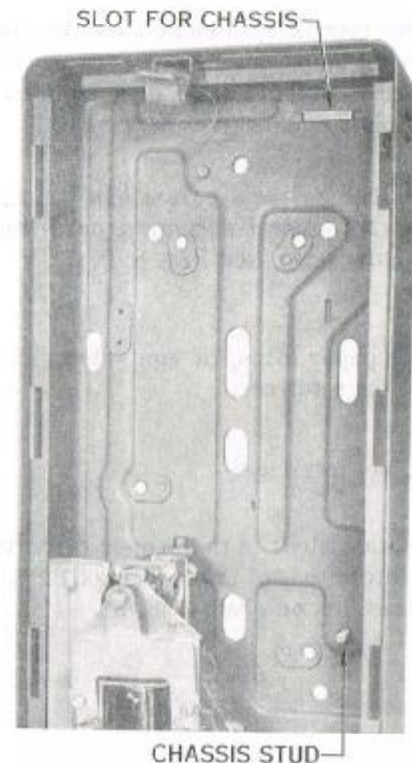
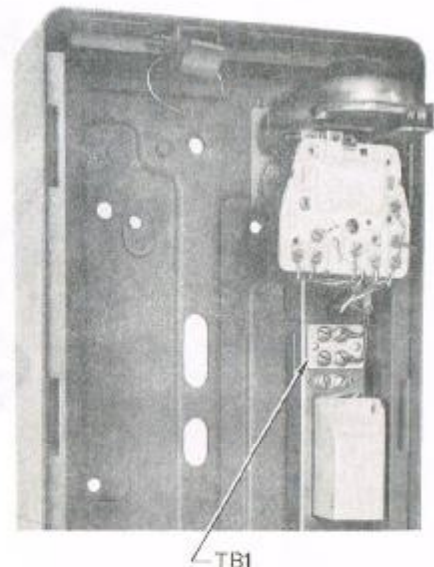

Fig. 6 – Chassis Replacement
Fig. 7 – Method of Terminating Inside Wire
- (1) Dress inside wire so that it will lay behind chassis assembly.
- (2) Slide chassis assembly up into slot provided at top (Fig. 6).
- (3) Seat chassis locating tabs into slots at top and bottom.
- (4) Secure chassis holding screw to chassis stud (Fig. 6).
- (5) Connect black and yellow leads to coin relay.
- (6) Terminate inside wire on R, T, and G of TB1 (Fig. 7).